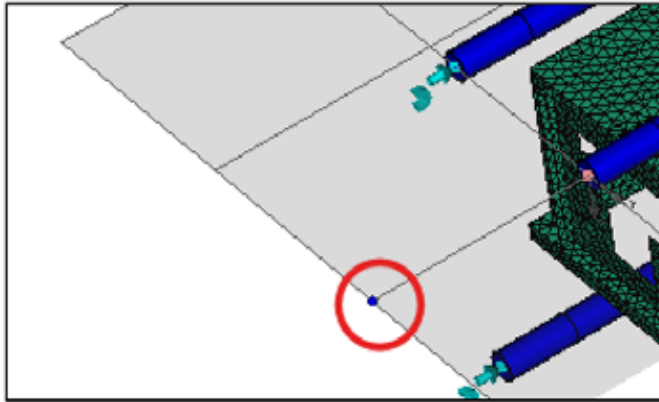

Figure 51: Point where to move the end cooling channel node
- The program will display a dark blue point at the location where the node will be moved. See this blue point in Figure 51 highlighted by a circle.